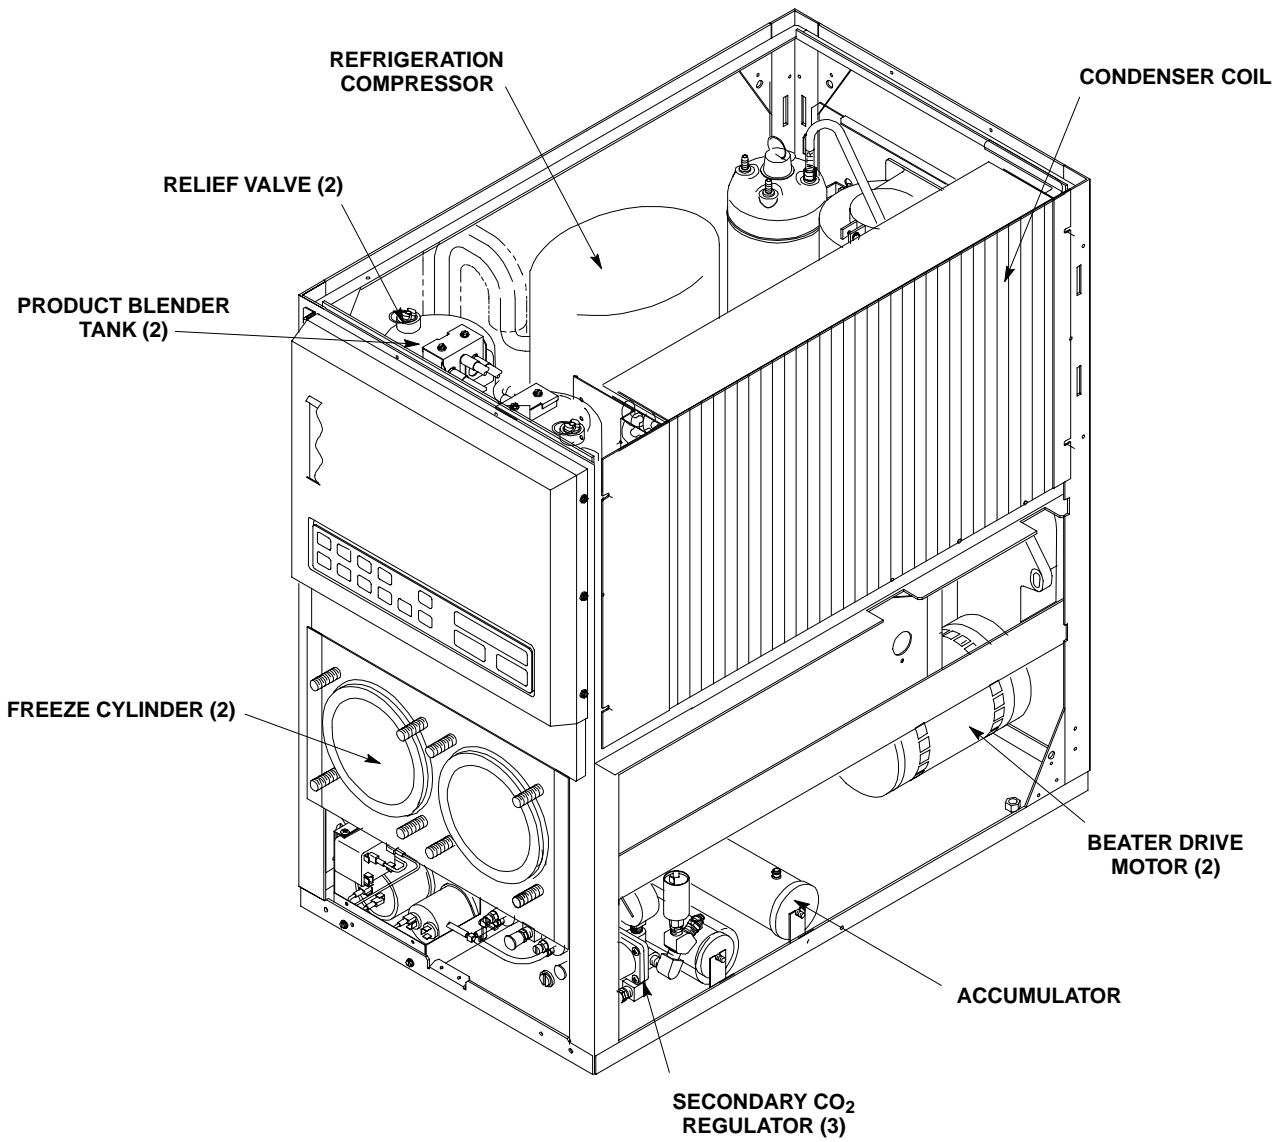

FIGURE 6. UNIT INTERNAL COMPONENTS
The FCB Dispenser refrigeration system is equipped with a condenser coil (see Figure 6) that is cooled by two condenser coil fans. Circulating air, required to cool the refrigeration system's condenser coil, is drawn in through a grilled panel on the right-hand side and is exhausted out through the opposite side and back grilled panels. Restricting air circulation through the Unit will decrease its cooling efficiency. **THE CONDENSER COIL MUST BE CLEANED PERIODICALLY AS INSTRUCTED IN the SERVICE AND MAINTENANCE section.**
3. The FCB Dispenser refrigeration system is equipped with a condenser coil (see Figure 6) that is cooled by two condenser coil fans. Circulating air, required to cool the refrigeration system's condenser coil, is drawn in through a grilled panel on the right-hand side and is exhausted out through the opposite side and back grilled panels. Restricting air circulation through the Unit will decrease its cooling efficiency. **THE CONDENSER COIL MUST BE CLEANED PERIODICALLY AS INSTRUCTED IN THE SERVICE AND MAINTENANCE SECTION.**
(see Figure 6)
NOTE: The FCB Dispenser refrigeration system is equipped with a condenser coil (see Figure 6) that is cooled by two condenser coil fans. Circulating air, required to cool the refrigeration system's condenser coil, is drawn in through grilled panel on the right-hand side and is exhausted out through the opposite side and back grilled panels. Restricting air circulation through the Unit will decrease its cooling efficiency. THE CONDENSER COIL MUST BE CLEANED PERIODICALLY AS INSTRUCTED.